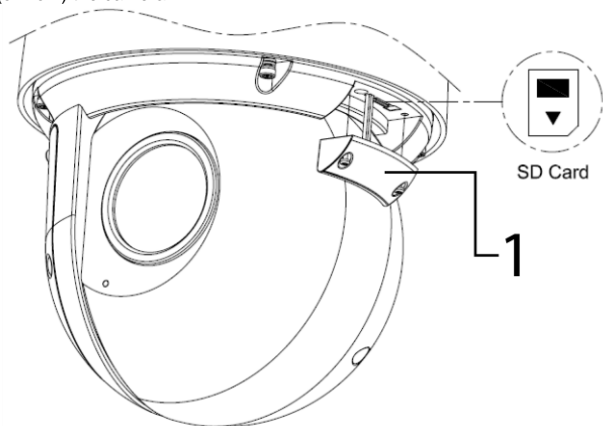

Figure 7
- A. Remove the two screws (1) (Figure 7) located on the micro SD card cover.
- C. Secure the two screws (1) (Figure 7) located on the micro SD card cover.